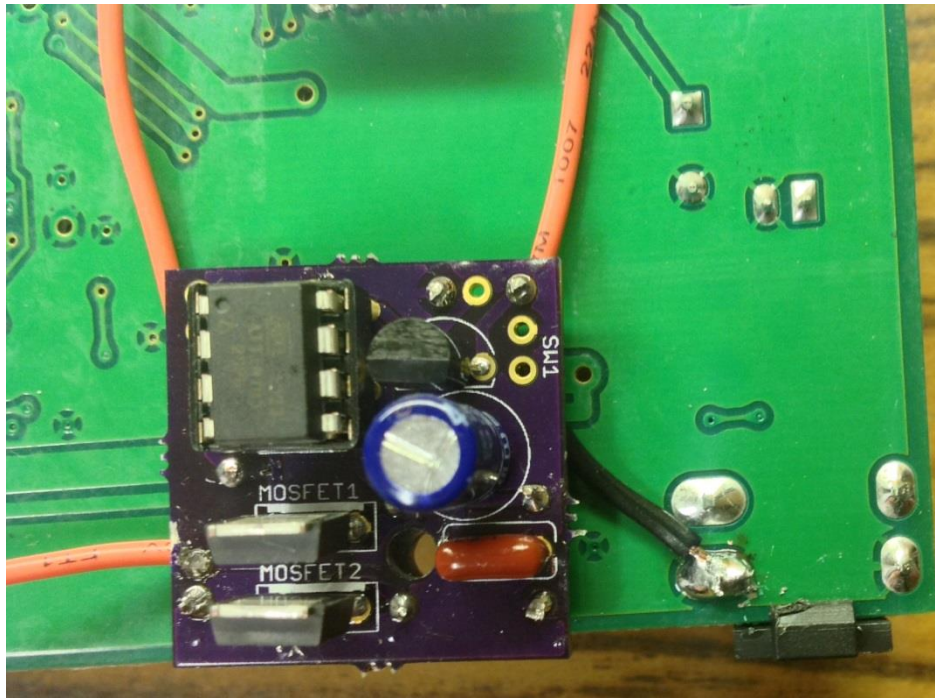

Figure 6.6
6. Connect a wire from the bottom left solder pad of switch 1 on the DL4 PCB to the "GND" solder pad on the SS PCB. (Figure 6.6)